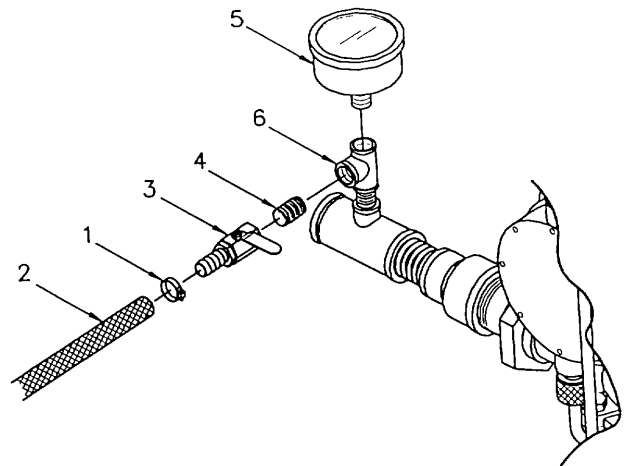
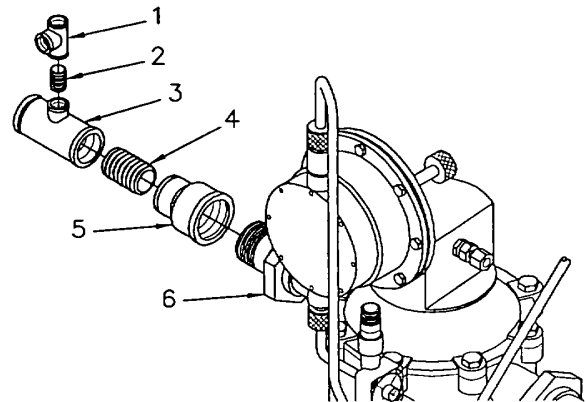

Figure 4-2. Water Supply Valve and Pressure Gauge
Figure 4-3. Reducing Tee and Coupling
(2) Remove water supply valve pressure gauge and reducing coupling as follows:
- (a) Loosen hose clamp (1, Figure 4-2) and remove water supply hose (2).
- (b) Unscrew water supply ball valve (3) and straight pipe adapter (4).
- (c) Remove pressure gauge (5) from pipe tee (6).
- (d) Remove pipe tee (1, Figure 4-3) and straight pipe adapter (2) from reducing tee (3).
- (e) Remove reducing tee (3), straight pipe adapter (4), and reducer coupling (5) from ratio-feeder assembly inlet (6).
- (1) Assemble reducing coupling, pressure gauge and water supply valve as follows:
- (a) Install reducer coupling (5, Figure 4-3) onto ratio-feeder assembly inlet (6).
- (b) Install straight adapter (4) and reducing tee (3).
- (c) Install straight adapter (2) and pipe tee (1) onto reducing tee (3).
- (d) Install pressure gauge (5, Figure 4-2) into pipe tee (6).
- (e) Install straight pipe adapter (4) and water supply ball valve (3) into pipe tee (6).
- (f) Connect water supply hose (2) to water supply ball valve (3) and tighten hose clamp (1).
- (2) Install strainer and ball valve as follows: